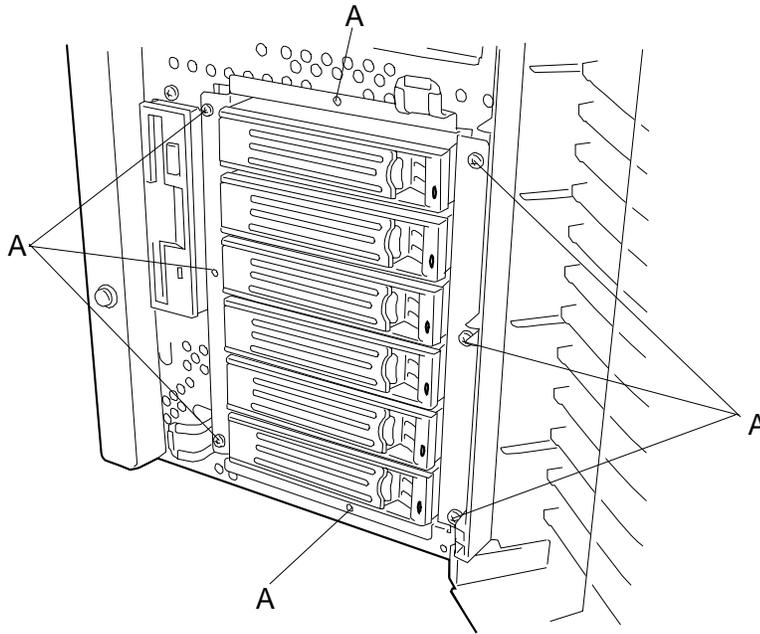

Figure 4-51. Removing the HDD Bay
To remove the hot-swap HDD bay (see Figure 4-51), perform the following procedures:
6. Remove and save the eight screws securing the HDD bay to the front of the chassis. See Figure 4-51.
6. At the front of the server, install the HDD bay into the chassis and secure it with eight screws. See Figure 4-51.